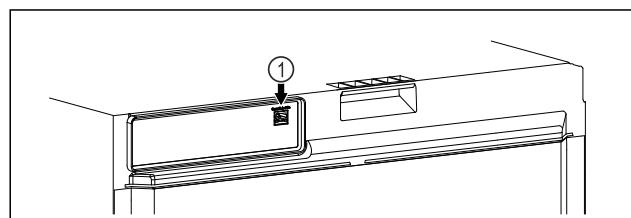

Fig. 112
SmartModule Fig. 112 (1) is inserted.